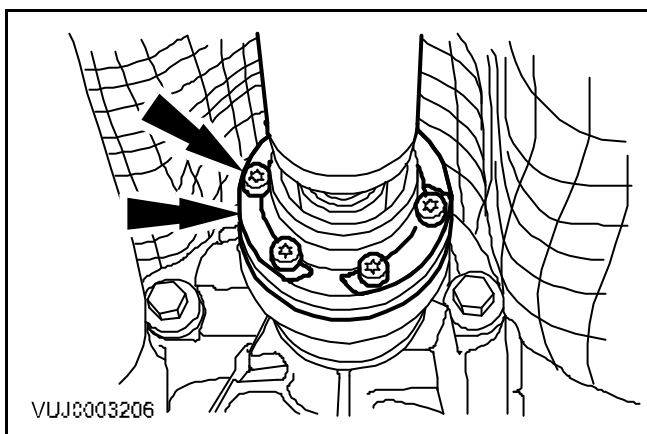

Fig. 1
- 3 Undo, remove and discard driveshaft front CV joint to transfer box rear output flange securing screws and locking links (see Fig. 1).